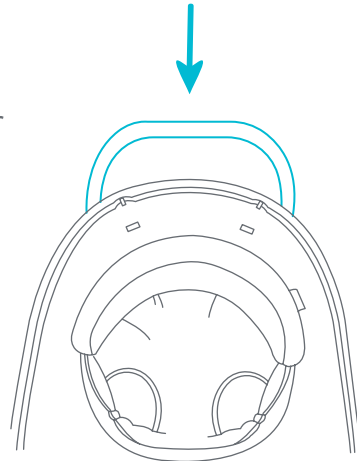

Fig. 8
- 8 • Insert the push handle into the rear of the walker (Fig. 8).